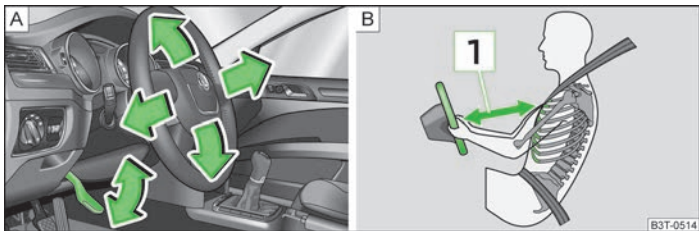

Fig. 112 Adjustable steering wheel: Lever below the steering wheel/safe distance to the steering wheel
- Maintain a distance of 25 cm 1 to the steering wheel » Fig. 112 on page 104 - B. Not maintaining this minimum distance will mean that the airbag system will not be able to properly protect you - hazard!
- › Pull the lever below the steering wheel down » Fig. 112 - A.